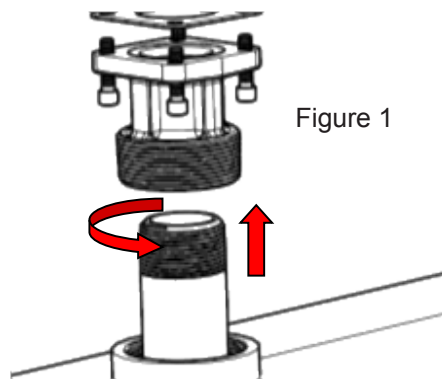

Figure 1
1. Thread the 1-1/4" pipe into the tank adapter. Seal threads liquid tight with appropriate sealant. (Figure 1)
The bypass valve is located inside the pump housing. It is accessed through the inlet and outlet openings. It consists of three main components (Figure 1):